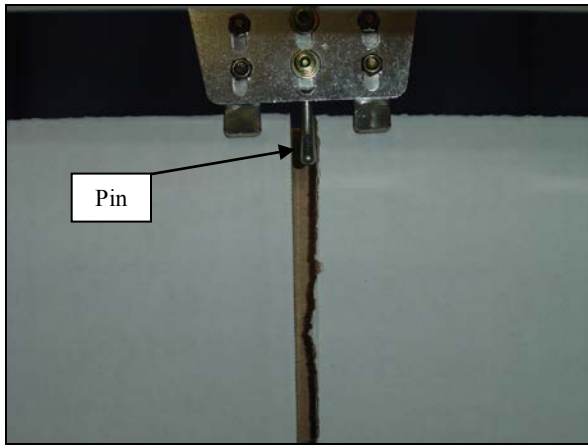

Figure 5.9
6. Move the stopper with the pin to the center of the slot of the case (Figure 5.9).
Figure 5.9 shows the upper stopper mechanism with two fingers and pin to facilitate the separation of blank cases from each other to process each one individually.